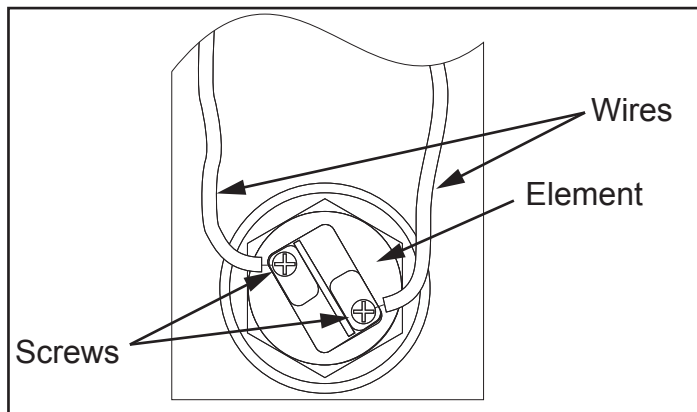

Figure 14. Heating Element Wiring
8. Disconnect the electrical wires from the heating element by loosening the screws (Figure 14). Remove the screw-in element by turning the element counterclockwise with a 1-1/2 inch socket wrench. Remove the existing gasket.
11. Close the drain valve and open the nearest hot water faucet. Then open the cold water shut off valve and allow the tank to fill completely with water. To purge the lines of any excess air and sediment, keep the hot water faucet open for three (3) minutes after a constant flow of water is obtained.
13. Reconnect the electrical wires to the element and securely tighten the screws (Figure 14).